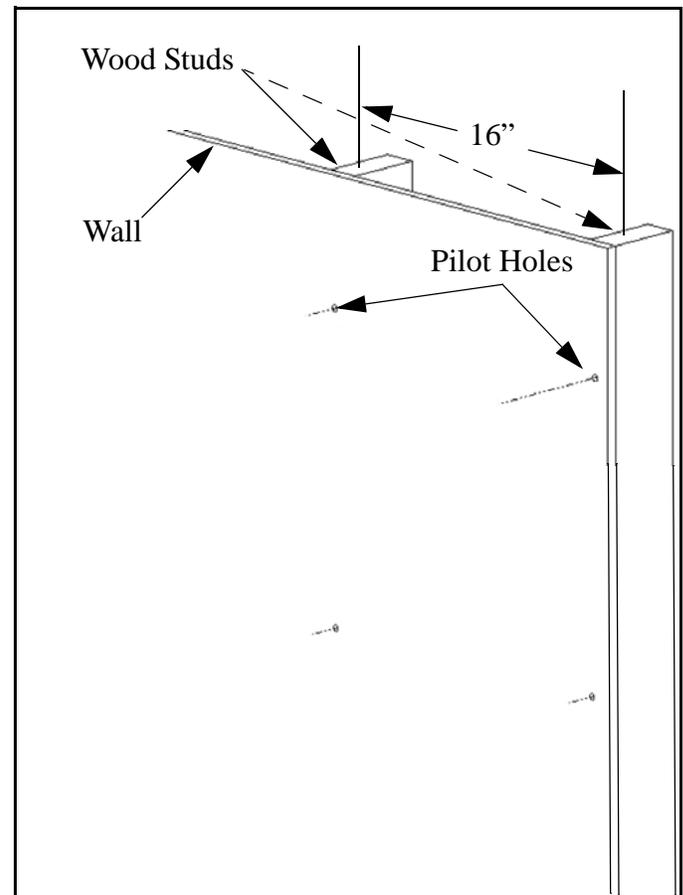

Figure 1: Two Wood studs 16" Apart On Center
7. Drill two pilot holes where the mounting holes were marked for anchoring the top bracket on the mount. See Figure 1.